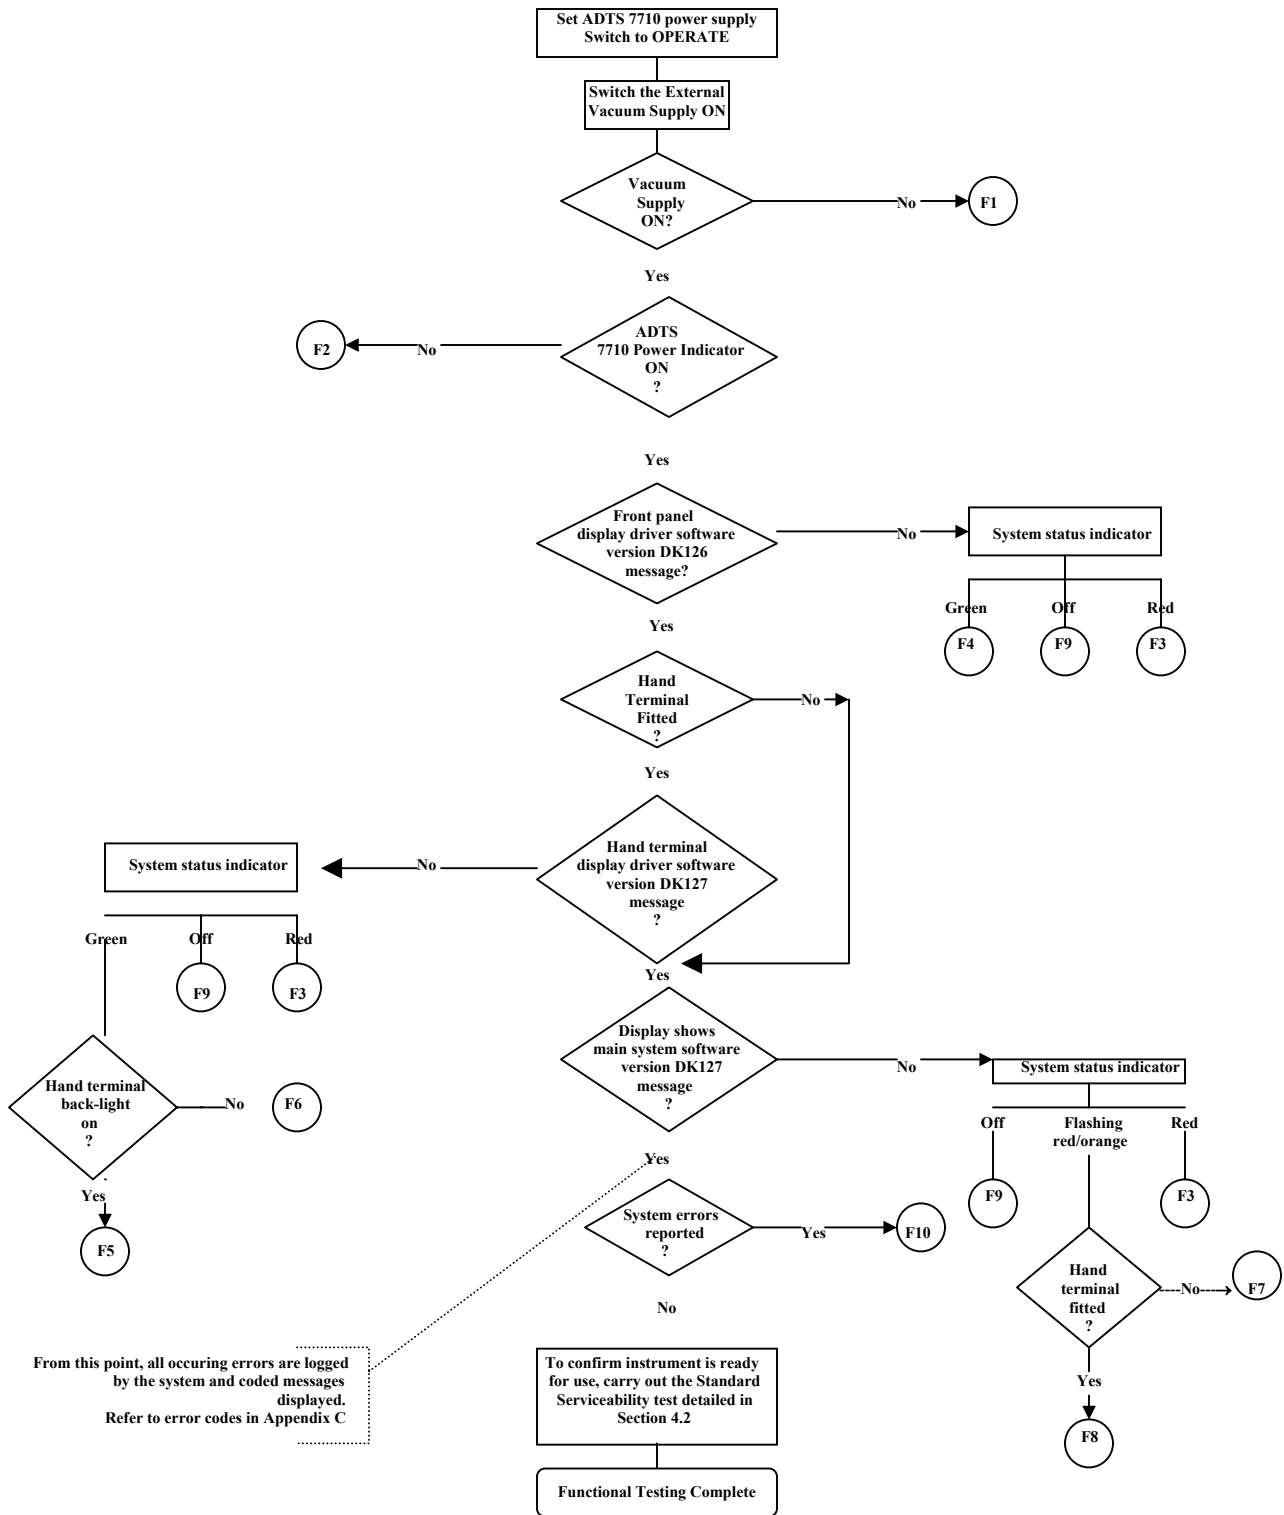

FIGURE 4-1 FAULT FINDING CHART
- If a fault occurs, refer to the fault location chart, Figure 4-1 and Table 4-1 for possible fault causes and recommended action.